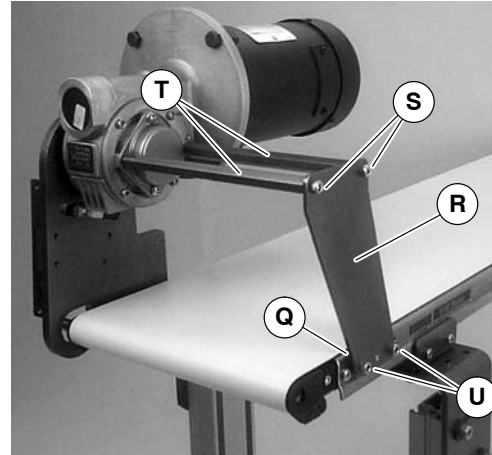

Figure 14
- 6b. Install hex posts (T of Figure 14). Attach wide end of support plate (R) to hex posts with screws (S). Attach narrow end of support plate to conveyor, using spacer (Q) and screws (U). Tighten screws to 80 in-lb (9 Nm).